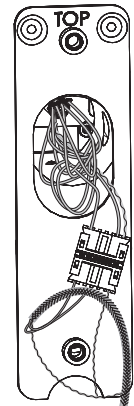

Fig. 8B
2. If fire kit is not being used, install (2) #8 x 1/2" in upper mounting plate holes.
4. Carefully tuck ElectroLynx connectors into 1 inch hole in door (Fig. 8B).